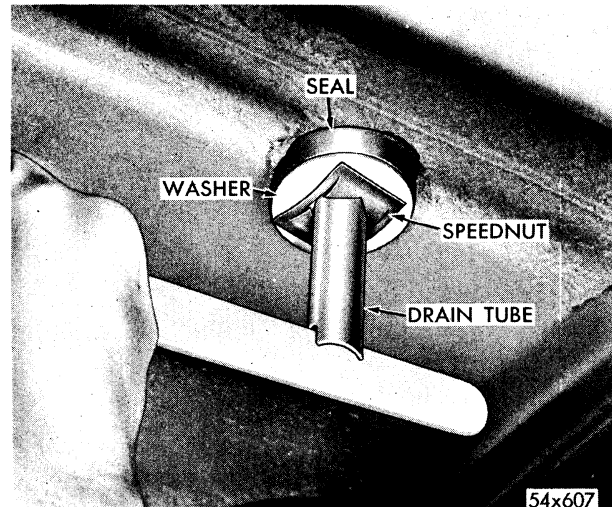

Fig. 24—Removing Evaporator Drain Tubes
- (3) Remove the evaporator cover and disconnect the electrical lead wires. Place blocks under evaporator at each end to act as supports when attaching bolt nuts are removed.
- (4) Raise the car and disconnect the suction pressure, liquid and by-pass connectors, being sure to tag the liquid and by-pass tubes for identification purposes when re-connecting.
- (5) Unscrew the drain tubes from the lower side of the trunk floor pan, as shown in Figure 24.
- (6) Lower the car. Remove the fresh air duct hoses from the fresh air valve flanges at each end of the evaporator.
- (7) Remove mounting brackets to the car body, attaching nuts and washers.
- (8) Remove evaporator from car, pulling disconnected refrigerant tubes up through floor pan. **CAUTION: Cap all disconnected connections to prevent entrance of dirt and/or moisture into the system.**